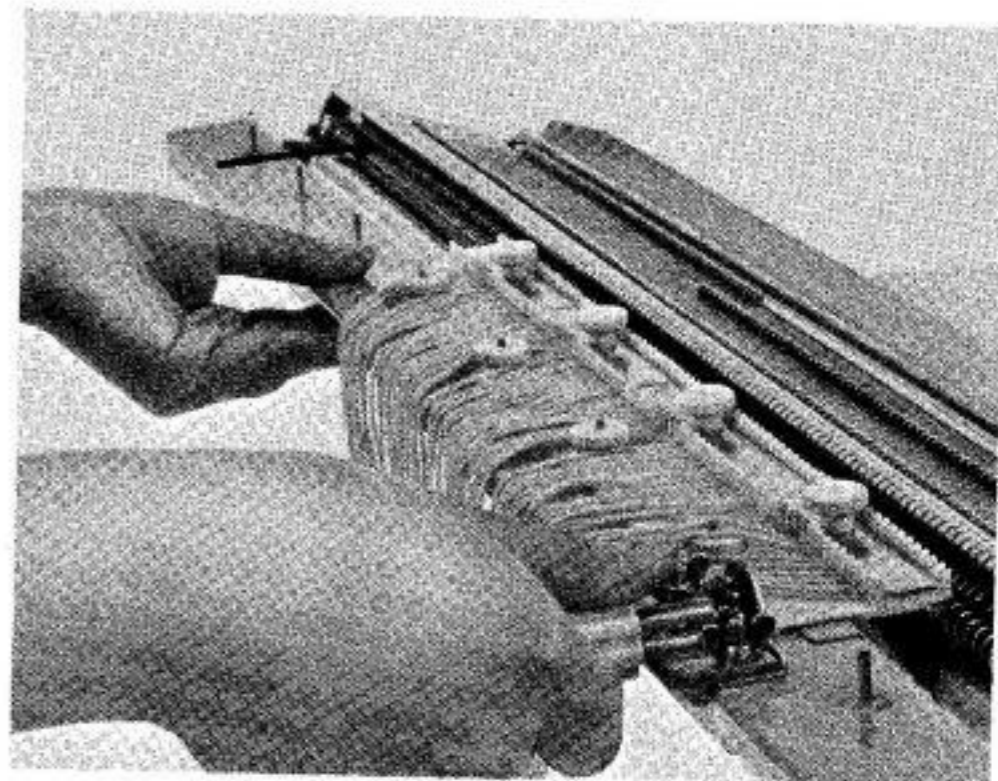

Fig. 18
- (5) Holding the Pitch Handle with your right hand, and the Attachment with your left hand. (See Fig. 18.) pull the Attachment slightly towards you and raise it until all the machine needles are beneath the V. P. K. units. (See Fig. 18.)
- (6) Still holding the Attachment in this position, turn the Pitch Handle clockwise (to the right) until it clicks once. The Scale will now read "1".
- (7) Pulling the Attachment slightly towards you, gently lower it and let go.